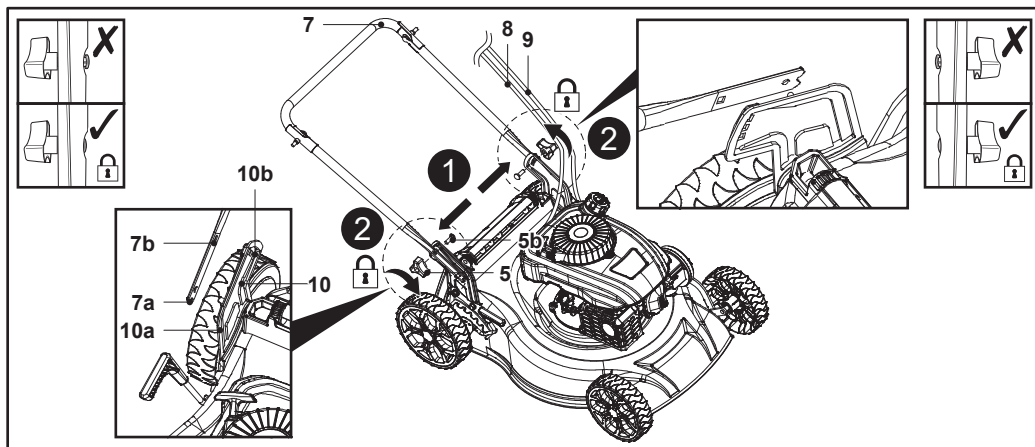

Fig. 1
2. Unscrew the two lock knobs (5) anti-clockwise from the thread of the mounting bolts (M8 x 23) (5b) for use. Keep them handy to avoid loss.
3. Align and engage the two holding holes (7a) of the lower handle bar (7) into the spigots (10a) of the two handle brackets (10) on both sides. Keep the handle assembly in position.
4. Align and pass one mounting bolt (M8 x 23) (5b) through one of the mounting holes (10b, 7b) of the handle bracket (10) and the lower handle bar (7) until the stop, then attach the lock knob (5) (Fig. 1, step 1).
5. Secure the handle assembly by screwing in the lock knob (5) clockwise on the thread of the mounting bolt (M8 x 23) (5b) (Fig. 1, step 2).
6. Repeat the above steps on the other side of the lower handle bar (7).
7. Make sure that the self-propelling wire (8) and the brake wire (9) run on the upper side of the lower handle bar (7).